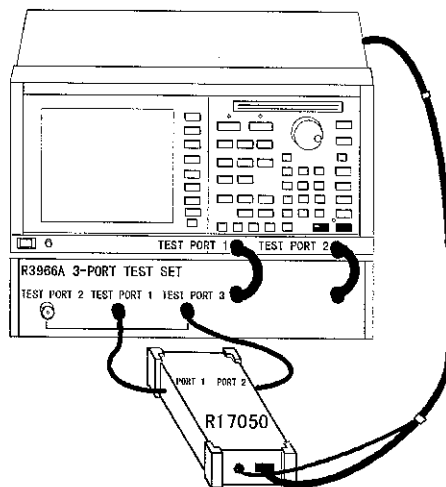

Figure 2-8 RF Port Connection
8. Connect the RF ports of the instrument to the test ports of the network analyzer (see Figure 2-8), using the cable that is actually used to measure the DUT. The RF port of the instrument has no directivity. Feel free to select port combinations.